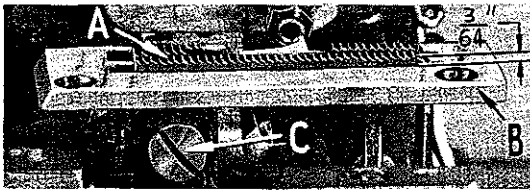
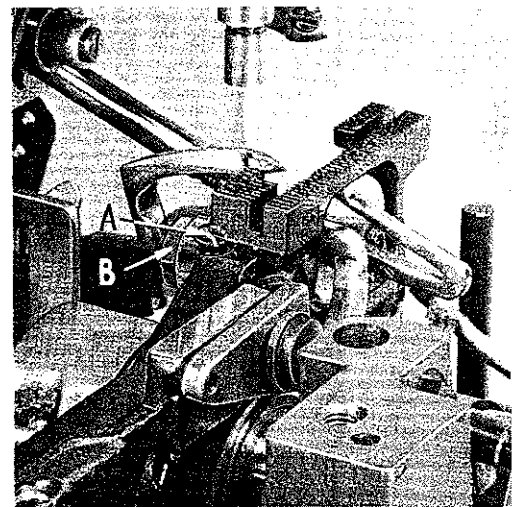
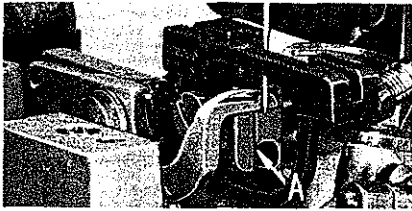

Fig. 7
Fig. 8
Fig. 9
Set the feed dog (A, Fig. 7) in the throat plate (B) so there is equal clearance on all sides and that the tips of the teeth are parallel with and project $\frac{3}{64}$ inch above the throat plate at high point of travel. Adjust the supporting screw (A, Fig. 8) under the feed dog to maintain this setting. Screw (C, Fig. 7) is used to
If feed dog teeth are not parallel with the throat plate, loosen nut (B, Fig. 8) and turn screw (A, Fig. 9) clockwise to lower the front teeth, and counterclockwise to raise the front teeth. Retighten nut when feed dog is set properly.